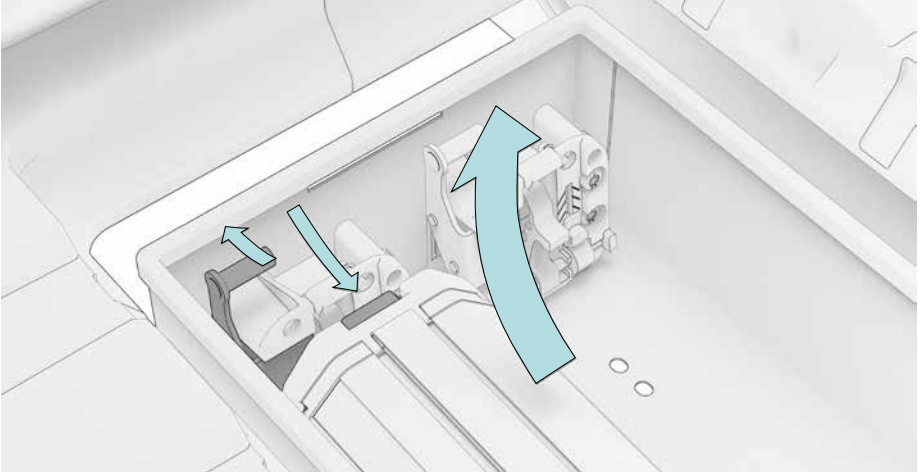

Fig. 13
3. Unlock the rechargeable battery. To do this, first pull release lever 1 toward the rechargeable battery and hold the lever in this position (Fig 13).